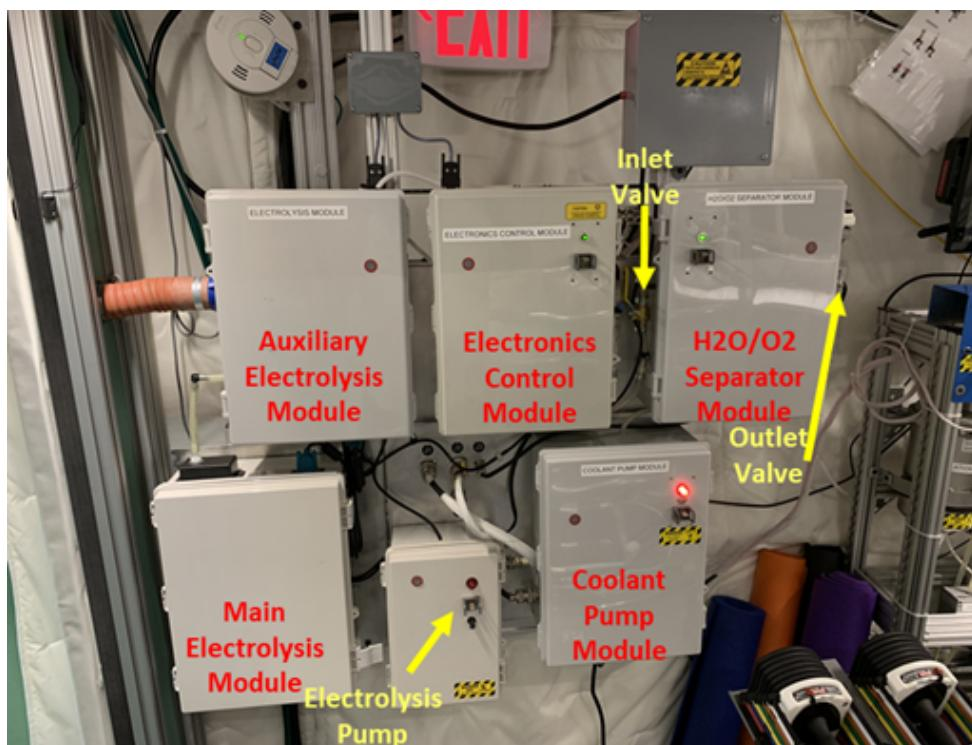

Figure 1: Solid Polymer Electrolysis System
- 1.4 Unlock both latches to Auxiliary Electrolysis Module and open door (see Figure 1).
- 1.6 Switch outlet valve to H₂O/O₂ Separator Module to “CLOSED” (see Figure 1).
- 1.12 Switch outlet valve on right side of H₂O/O₂ Separator Module to “OPEN” (see Figure 1.)
- 2.1 Unlock both latches to Coolant Pump Module and open door (see Figure 1).